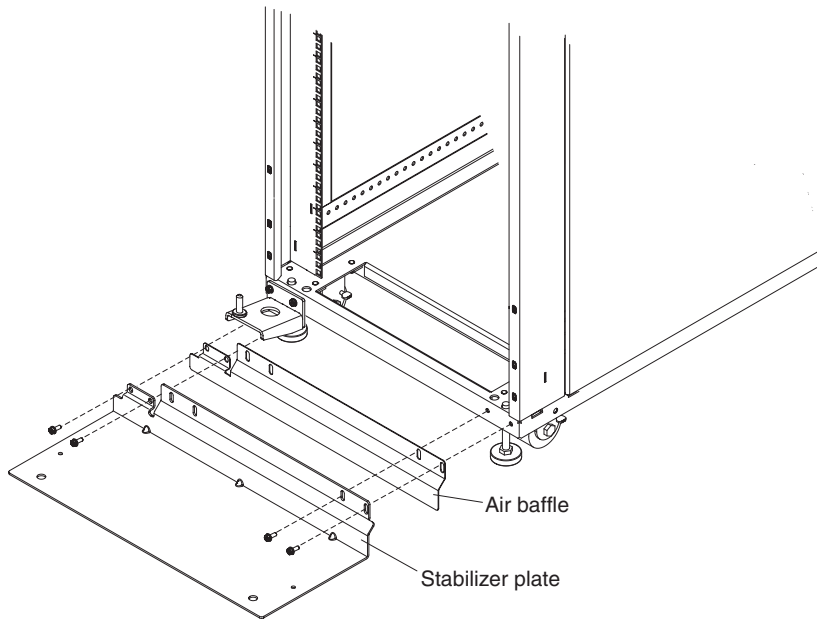

Figure 6. Installing the air baffle and stabilizer plate
6. Align the air baffle and the stabilizer plate as shown in Figure 6, making sure that the holes on the left side of the air baffle and stabilizer plate align with the holes under the bottom hinge. Secure the air baffle and stabilizer plate to the rack with four long screws.